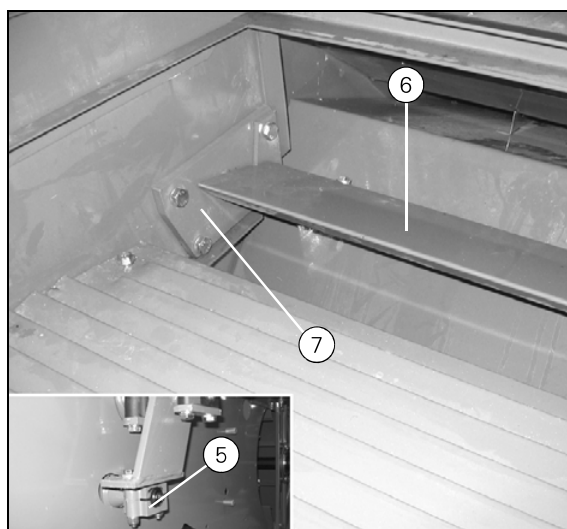

Fig. 40
- Connect the wires to the commutator (Fig. 40): Red to + and black to -.